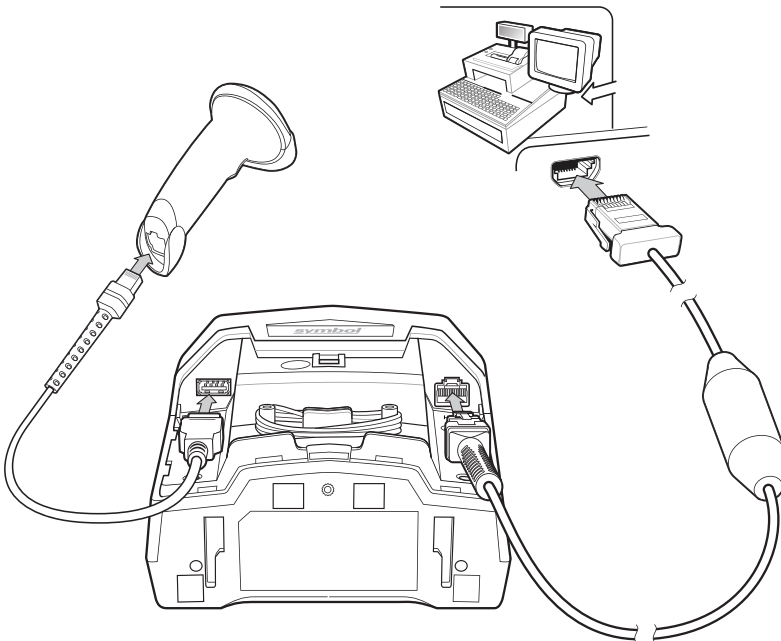

Figure 8-2 IBM Connection with Optional Auxiliary Scanner
- b. Connect either a CBA-M65-S07ZAR or CBA-M66-S15ZAR 12 volt cable to the host as shown in Figure 8-2.